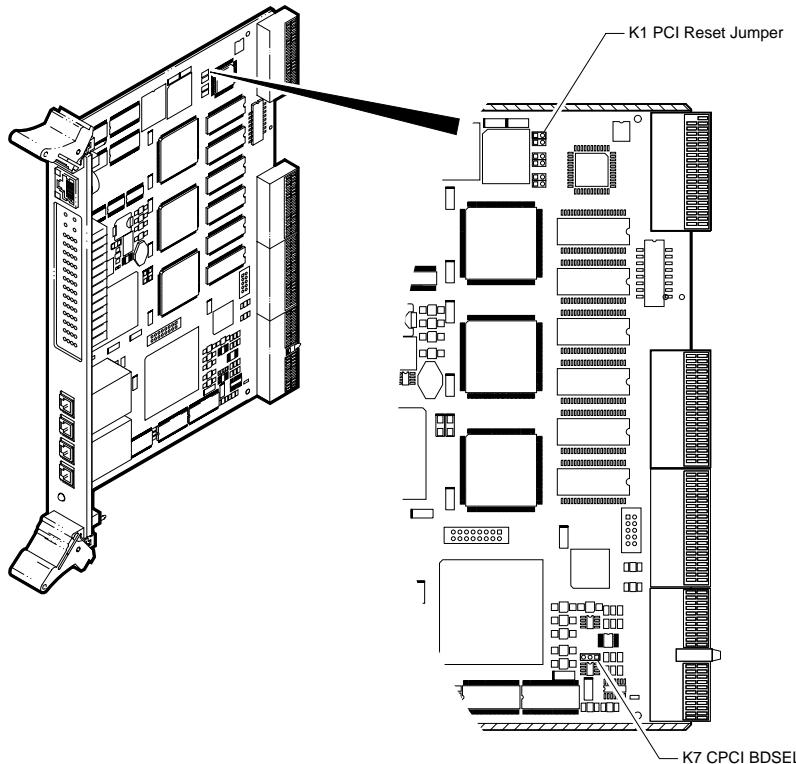

Figure 3.2 Ethernet Switch Jumper Configuration
- 2 Remove the K1 PCI Reset jumper from each card. Figure 3.2 shows the location of the jumper.